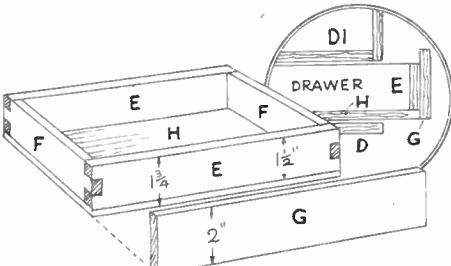

Fig. 2—Construction and detail of drawer
The drawer is simple in construction, as Fig. 2 shows. There is a shallow frame made from four rails 1½ ins. wide, the two side rails (F) measuring 9ins. long and two rails (E) 11½ ins. long. All are lock-jointed at the angles, see Fig. 2. A floor piece will be glued to the frame, and the edges round afterwards glass-papered and made to fit neatly into its opening in the box. To the front rail (E) of the drawer is fixed an outer front (G), measuring 12ins. by 2ins. by  $\frac{1}{4}$  in.
In fixing on the front (G) see that its lowermost edge comes flush with the lower edge of the floor. The dotted line shows this in the large circled diagram in Fig. 2.